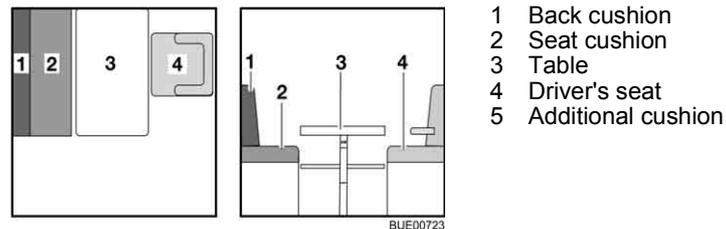

Fig. 120 Prior to conversion
- Turn the driver's seat (Fig. 120,4) and push it all the way forward.
- Convert the table (Fig. 120,3) to a bed foundation (see section 6.11).
- Lay the back cushion (Fig. 120,1) aside.